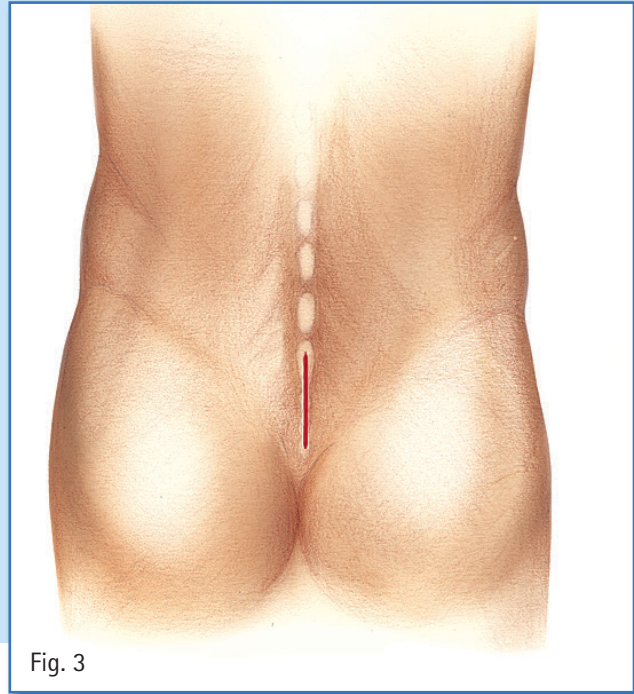

Fig. 3
- The intended skin incision is marked midline (Fig. 3).